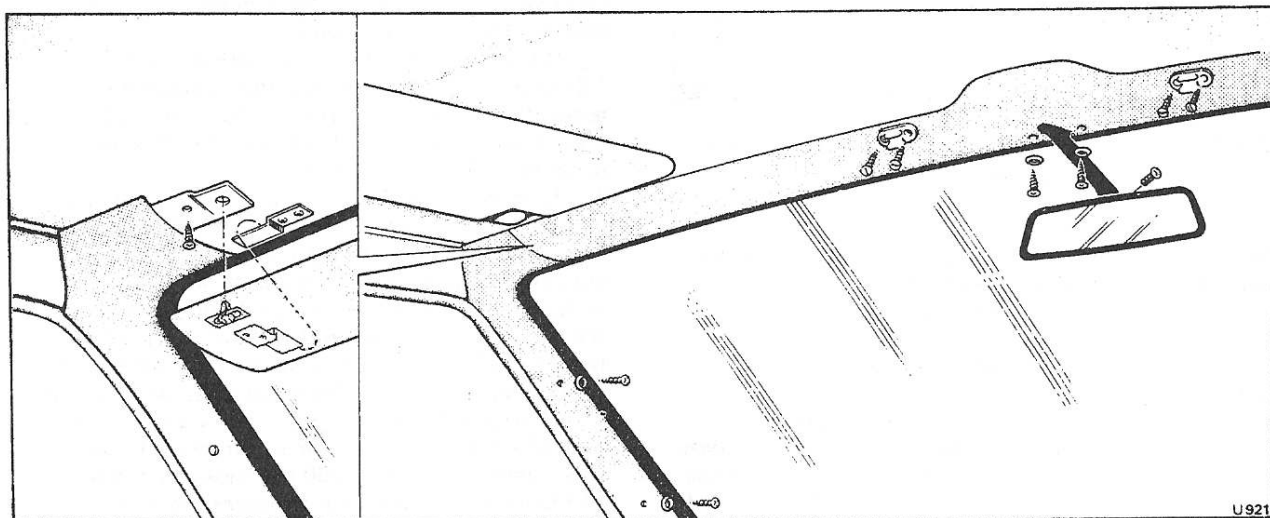

Fig. S131 Windscreen interior trim (Silver Shadow II, Bentley T2 and Silver Wraith II)
4. Pull each sun visor spindle from the slots in the inner retaining brackets then swing each visor outwards to lie against the cantrail/roof trim panels (see Fig. S131).
5. Remove the sun visor inner retaining brackets by releasing the screws securing the brackets to the header trim panel (see Fig. S131).
7. Remove the screw and cup washer securing the header trim panel at each side of the mirror stem (see Fig. S131).
8. Release the retaining clips and disengage the brackets from each end of the header trim panel by sliding the panel upwards (see Fig. S131); remove the header trim panel.
9. Release the two screws and cup washers retaining the 'A' post trim panels at each side of the windscreen. Also, remove the self-tapping screw securing the top of each 'A' post to the header panel; remove the 'A' post trim panels (see Fig. S131).